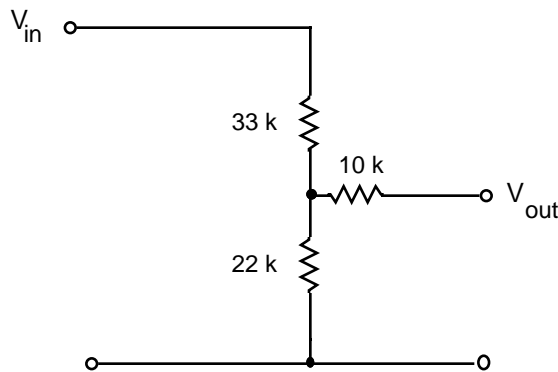

Fig. 1.3
b) Now build the circuit of Fig 1.3. Measure the open-circuit voltage and the short-circuit current and find the Thévenin equivalent resistance and voltage.